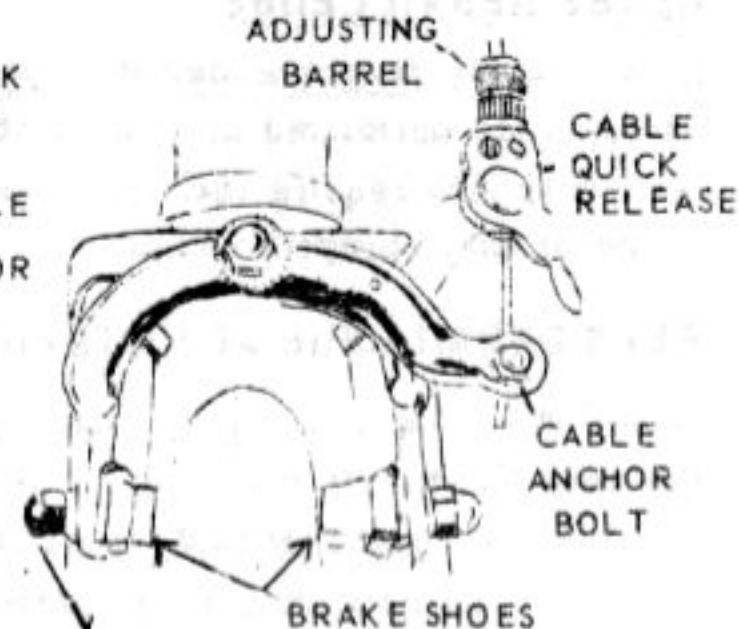

FIGURE 9
2. On the caliper brake arm (see figure 9 - page 9)